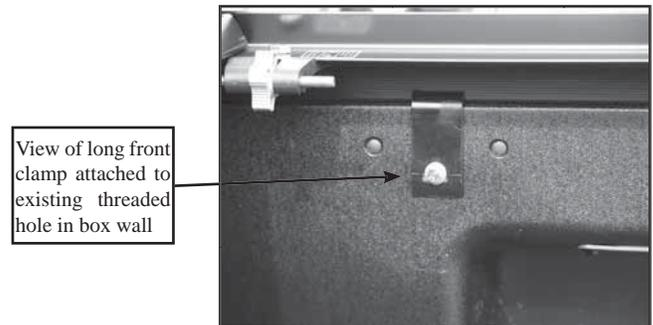

FIGURE 2
2. At front of rail, mount 1st long clamp using a new bolt, lock washer, and flat washer. Turn bolt into existing threaded sleeve in box wall. Adjust clamp up as high as needed to level rail when tightening. After tightening - check rail for level. If rail tilts down - clamp will need to be loosened, moved up and retightened. If rail tilts up - clamp will need to be loosened, moved down and retightened. Do this until rail is level. Torque to 75 inch pounds. (SEE FIGURE & FIGURE 2).